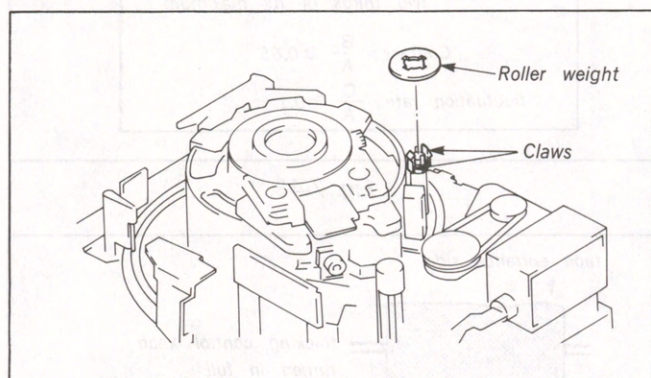
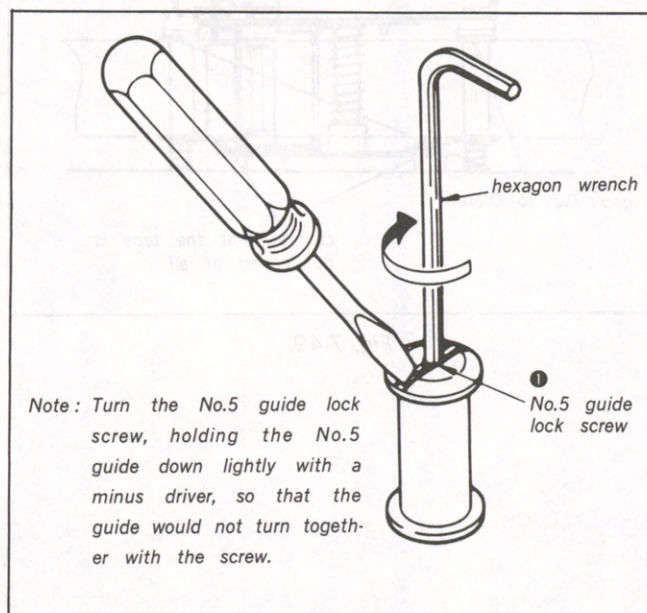

Fig. 7-45.
Fig. 7-48.
- 1) Referring to Fig. 7-45, take off the two claws to detach the roller weight.
- 4) Loosen No.5 guide lock screw ❶ and turn the No.5 guide, in order to make the entrance waveform stick up a little rather than flat as illustrated in Fig 7-45, and tighten the No.5 guide lock screw (Fig.7-48).